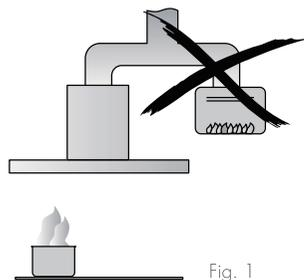

Fig. 1
- ⊙ The exhaust from the canopy rangehood must not be discharged into any heating flue, which may carry combustion products from other sources. (Fig 1)